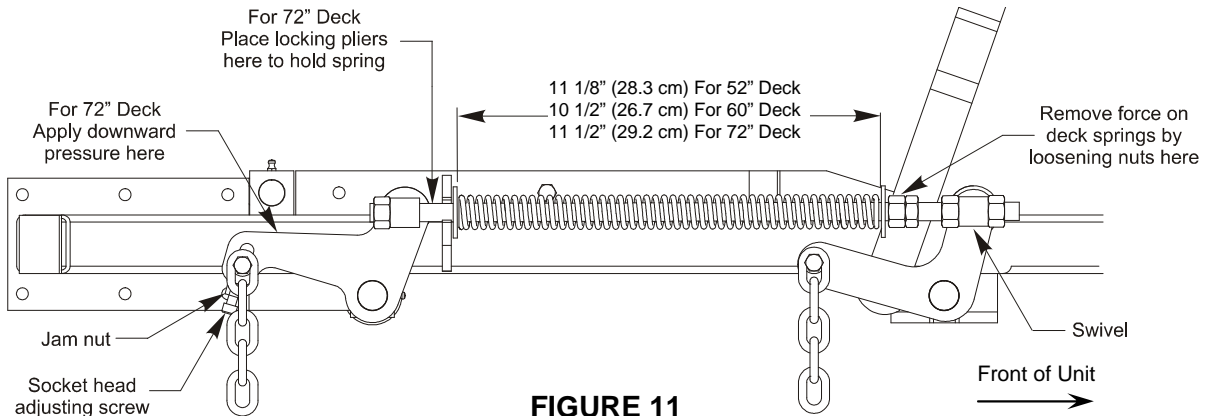

FIGURE 11
- e) Raise the deck to the 5" (12.7 cm) height position (also transport position) and take all force off of the two large deck lift springs by loosening the nuts at the front of each spring. See Figure 11.
For 72" units – Lower the deck to the 1-1/2" (3.81 cm) height position. Force the left rear deck support arm downward about 1/4" (6.4 mm) to get the deck to rest at the 1-1/2" height position. Place locking pliers between the rear swivel and spring stop to hold the deck in this position. See Figure 11.
- I) Raise deck lift lever to the 5" (12.7 cm) cutting height position See Figure 9. Adjust spring compression until proper distance is obtained between the two large washers (See Figure 11). Adjustment is made by turning the nut at the front of each spring (clockwise will shorten the spring, counter-clockwise will lengthen the spring). Lock in position with jam nuts.